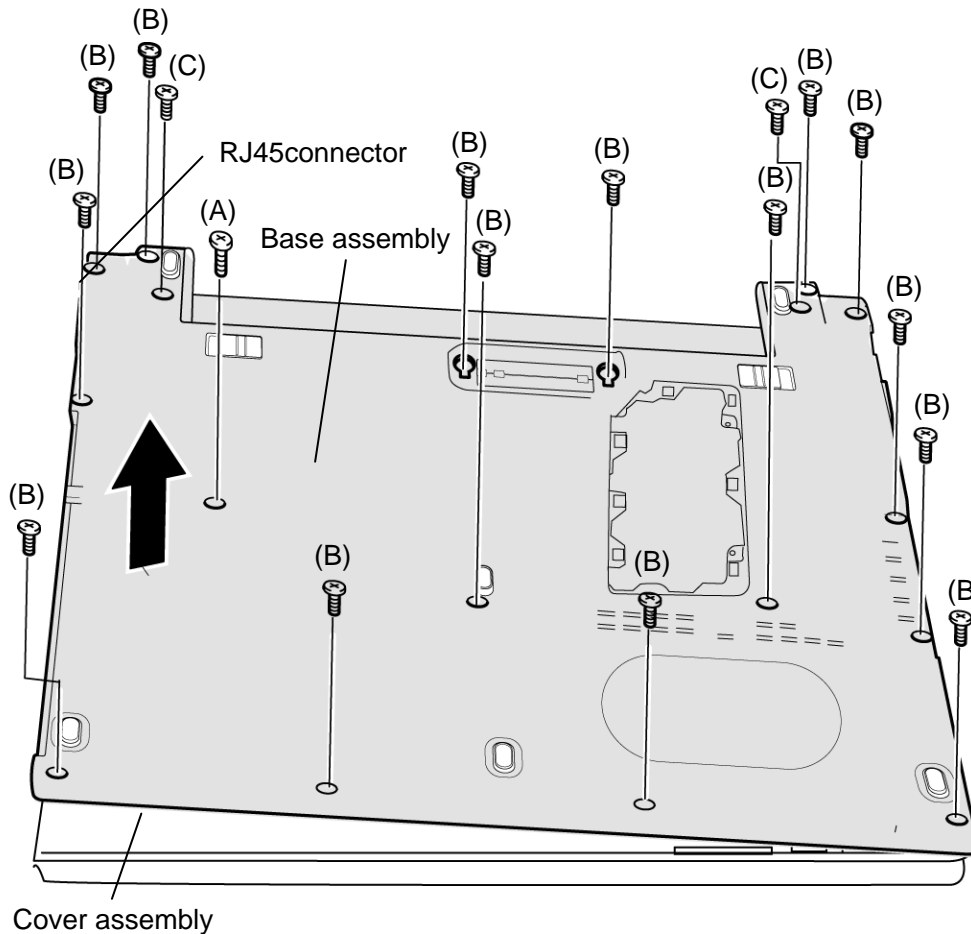

Figure 4-7 Removing the base assembly
To remove the base assembly, follow the steps below and refer to Figure 4-7.
To install the base assembly, follow the steps below and refer to Figure 4-7.
- M2×4C BIND screw ×1 (Described as “A” in the Figure 4-7)
- M2×6C BIND screw ×15 (Described as “B” in the Figure 4-7)
- M2.5×10C FLAT HEAD screw ×2 (Described as “C” in the Figure 4-7)